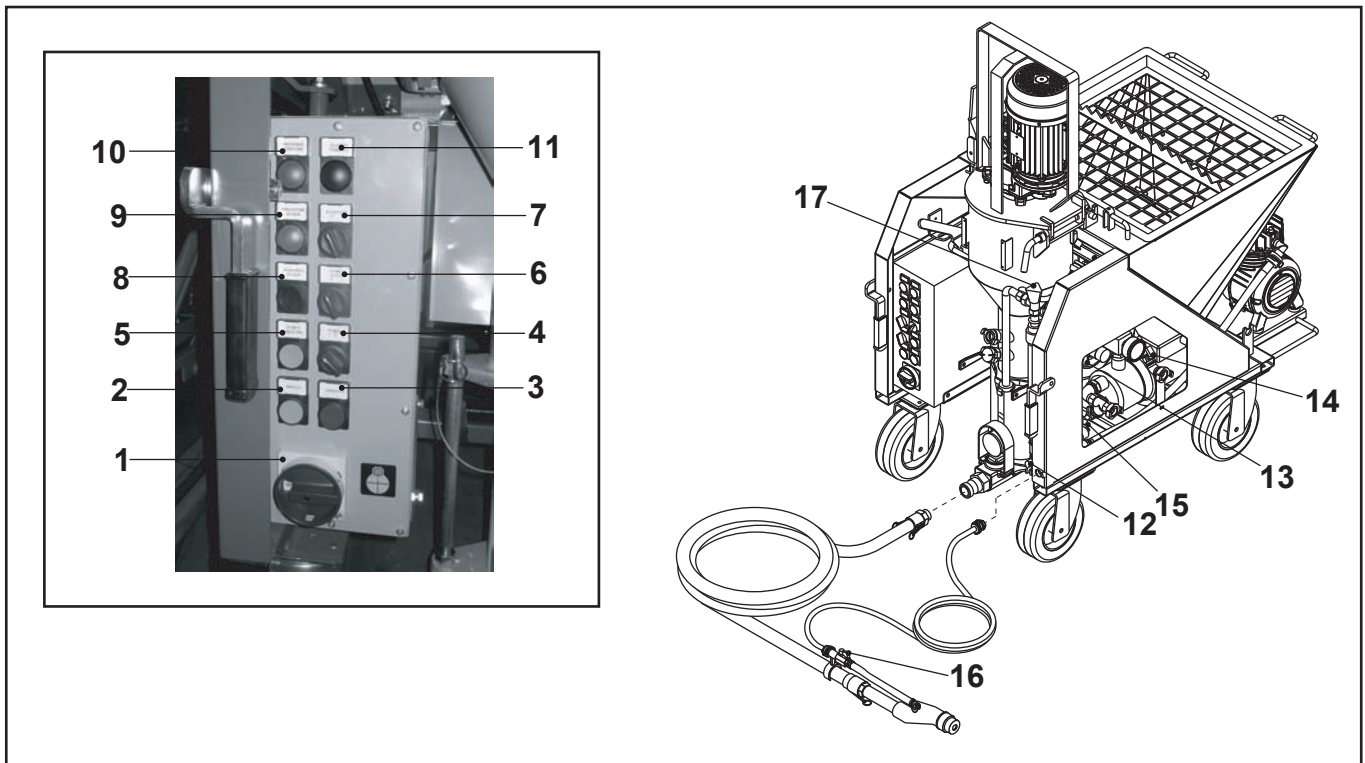
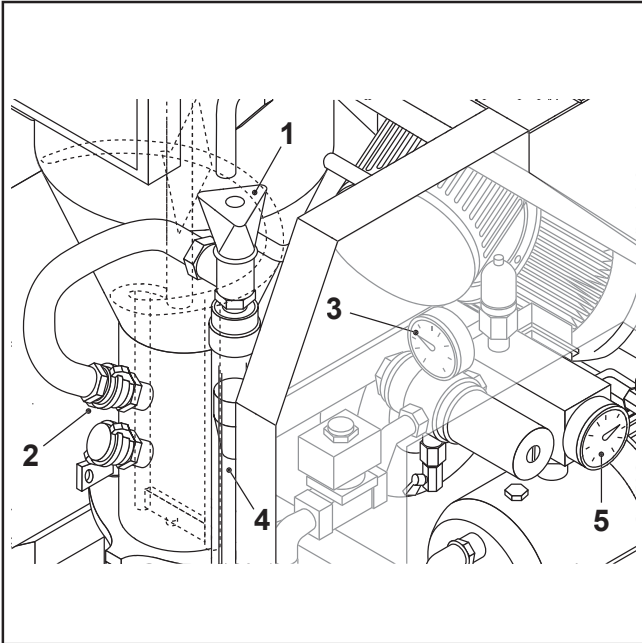

FIG.20
FIG.23
Disconnect the hose (FIG.23-REF.2) the delivers the water to the mixing chamber by pressing and holding the water supplement button (FIG.20-REF.8).
Adjust the flow meter (FIG.23-REF.4) to 500 l/h with the cock (FIG.23-REF.1) and then reconnect the hose (FIG.23-REF.2).
Press the water supplement button for about 3 seconds (FIG.20-REF.8).
When the green button of the start switch is pressed (FIG.20-REF.2) the material pump activates and the red indicator switches off.
- Adjust the water flow with the cock (FIG.23-REF.1) until you have the desired consistency.
Now you can start working normally: the opening and closing of the pneumatic control (FIG.20-REF.16) to the gun starts and stops the machine.
In particular, before opening a coupling, check the delivery flange pressure gauge to make sure there is no residual pressure in the hoses and, in any case, when stepped on, the hoses must sag. Also make sure that there is no one near. This potentially dangerous operation must always be carried out with the utmost caution, by an experienced person. - Always disconnect the power from the machine, putting the main disconnecting switch (FIG.20-REF.1) on OFF, before removing or reassembling any of the machine's components or accessories.